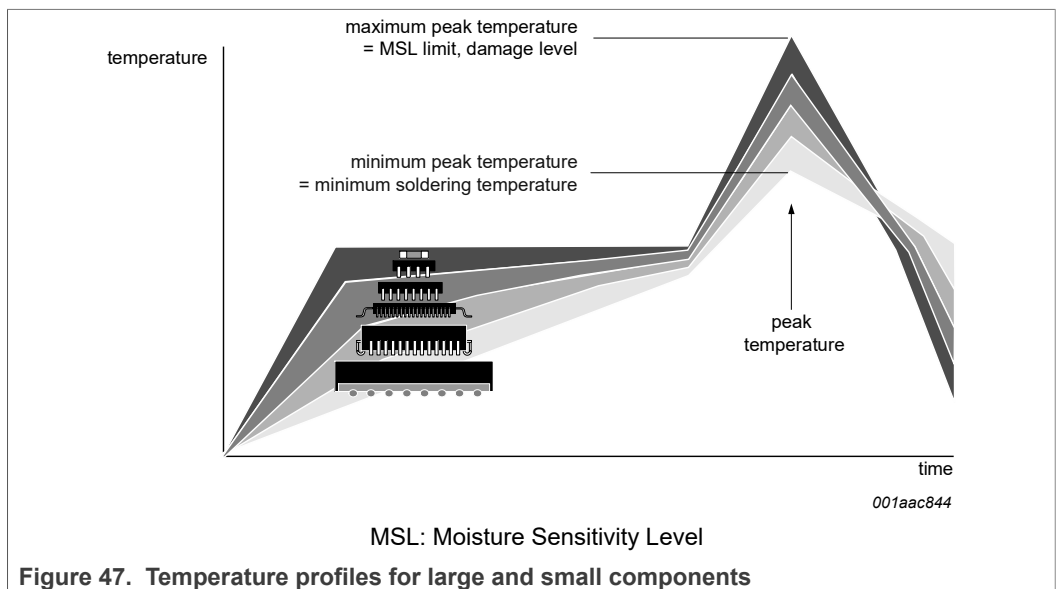

Figure 47. Temperature profiles for large and small components
- Lead-free versus SnPb soldering; note that a lead-free reflow process usually leads to higher minimum peak temperatures (see Figure 47) than a SnPb process, thus reducing the process window
Studies have shown that small packages reach higher temperatures during reflow soldering, see Figure 47.